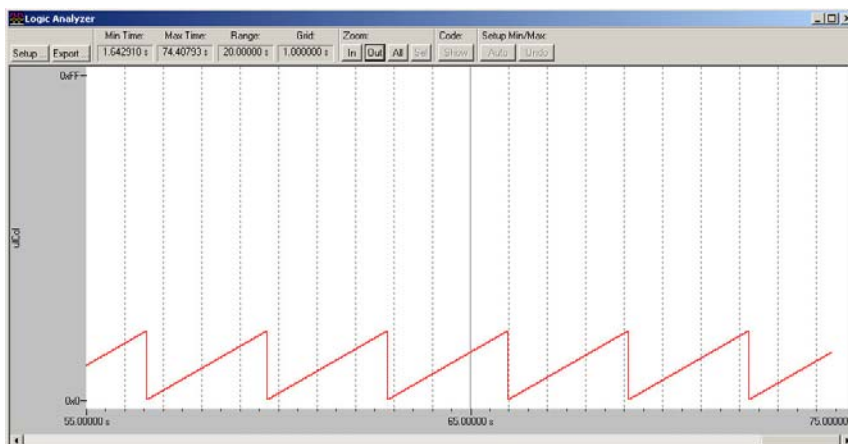

Figure 10 Logic Analyzer Window
11. The Logic Analyzer as shown in Figure 10 will display the changing values of ulCol in real-time. No CPU cycles are stolen to do this. In addition, any read or writes to ulCol will also be sent to the Trace Records window.